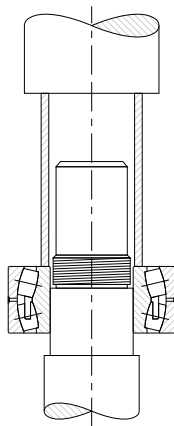

Fig. 96. Arbor press method.
- An alternate method of mounting, generally used only on smaller size bearings, is to press the bearing onto the shaft or into the housing. This can be done by using an arbor press and a mounting tube as shown in fig. 96.